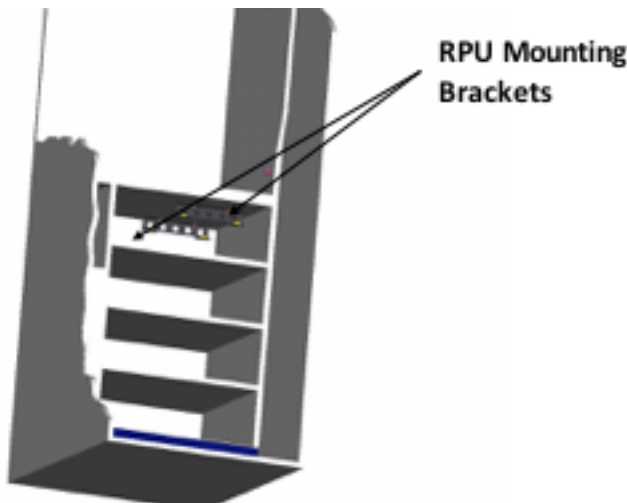

FIGURE 7:
- » The provisions to mount RPU 4 will be located on the fixed top inside surface of the top drawer cavity of the VCC located in the forward galley. The modification will require potted inserts to be installed into the top inside surface of the top drawer cavity to install the mounting brackets for (1) RPU (see Figure 7).